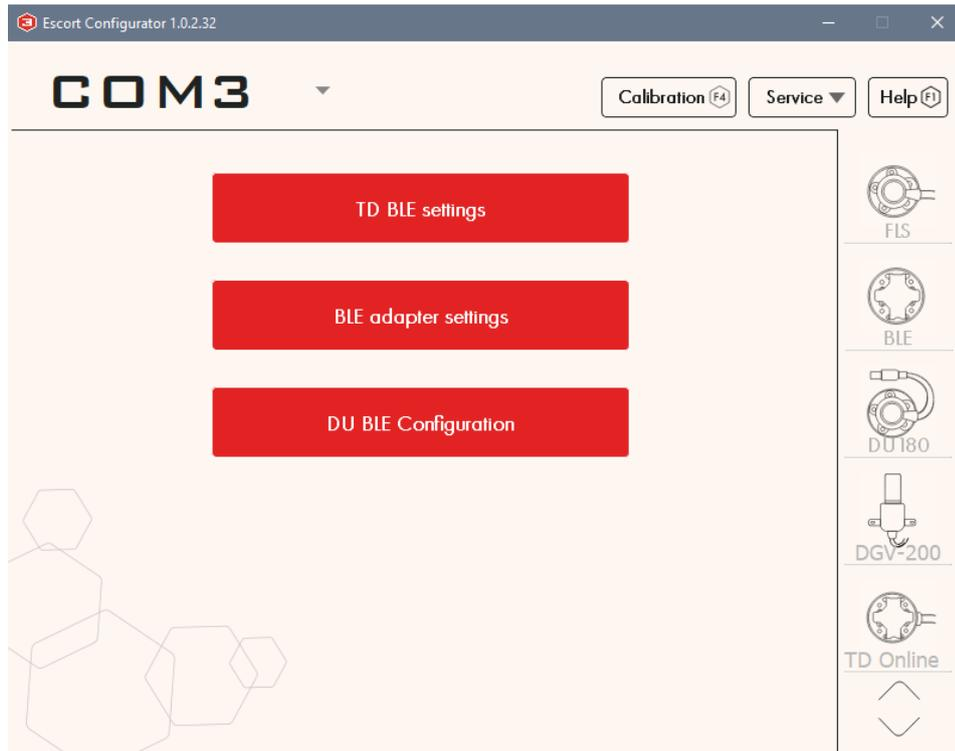

Fig. 11.2. Connect the adapter to configure it
3. Click **BLE adapter settings** (Fig.11.2.)